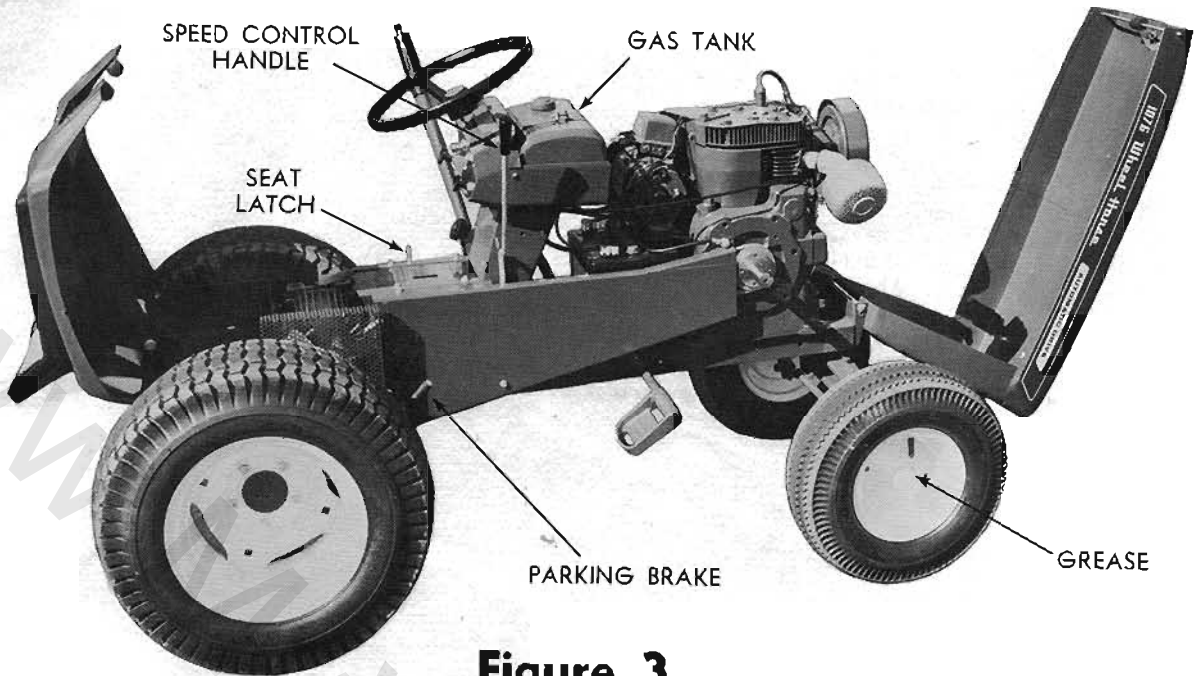

Figure 3
The parking brake is located on the right side of the tractor. (See Figure 3.) To set the parking brake push down on the handle. Brake should always be
1. Keep tractor greased and oiled regularly. Refer to Figure 3 and 4 for the location of grease fittings. Check transmission and engine case oil levels.